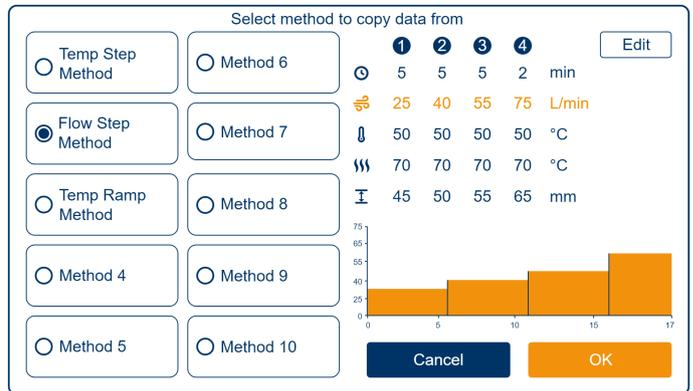

Figure 27. The Methods view where the method to be run or modified can be accessed.
3. The Methods view dialog opens, see Figure 27.
4. Select the method of choice and press the **Edit method** button, see Figure 27.
7. In the Methods view, press **OK** to return to the Evaporate view, see Figure 27.